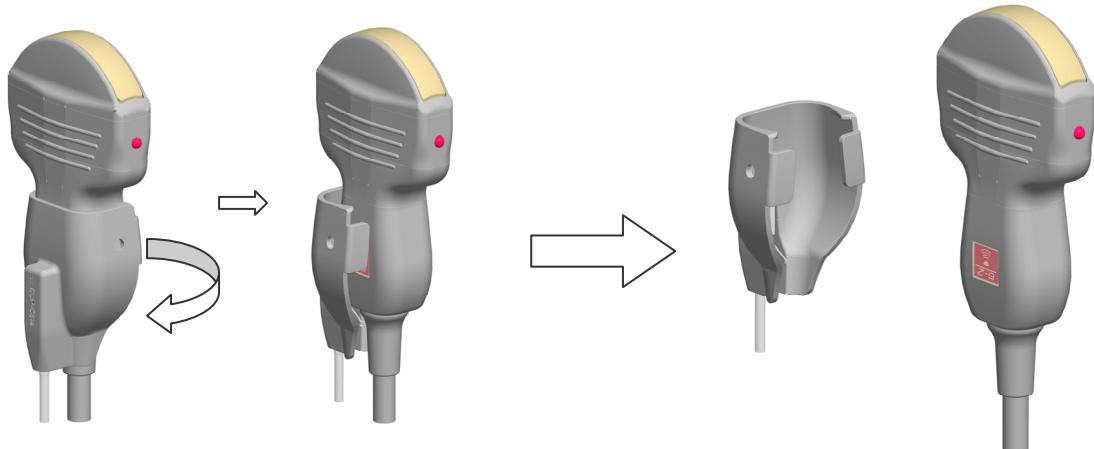

Fig. 11 How to release the Magnetic sensor attachment
- 1) Turn around the magnetic sensor attachment and release it from probe as shown in Fig. 11.